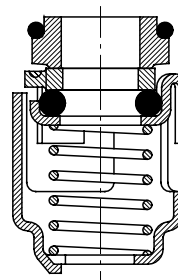

Fig. 11 Shaft seal
As standard, the CRT(E) range is fitted with a Grundfos type A shaft seal suitable for the most common applications, see Fig. 11.